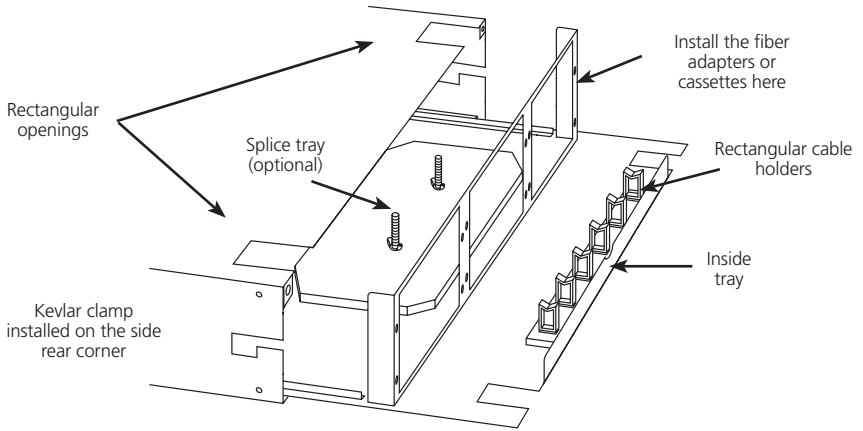

Figure 1. Fiber Rackmount Cabinet with tray pulled out.
7. Terminate the fiber optic connectors on the multi-strand distribution fiber cable, or make the splice as needed. (See Figures 1 and 2 for a typical cable installation.) Connect the fiber cable termination to the rear of the fiber adapters panel.